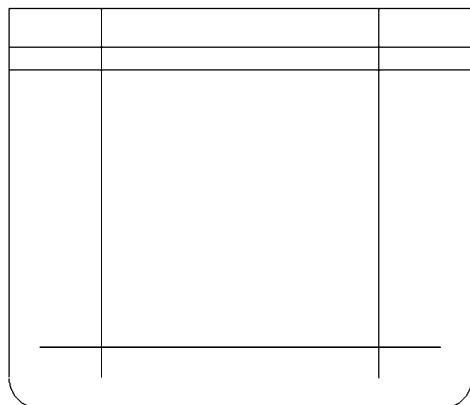

FIGURE 4-2.9 All four lines offset inward to create outline for washer door
25. **Offset** the other three sides; your sketch should look like Figure 4-2.9.